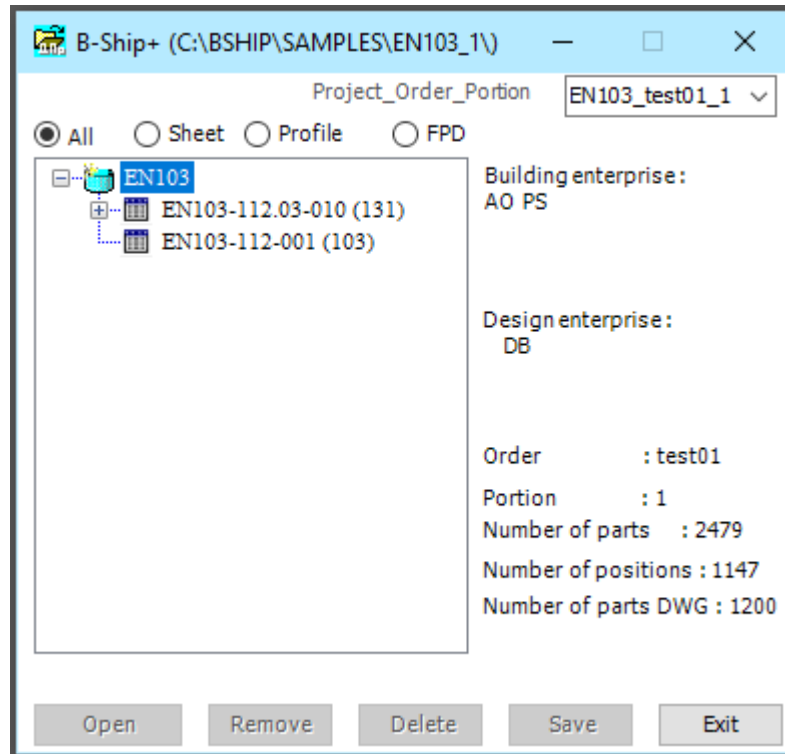

Figure 166
- Clicking on the icon triggers a B-Ship+ window (order folder ...), shown in Figure 166.